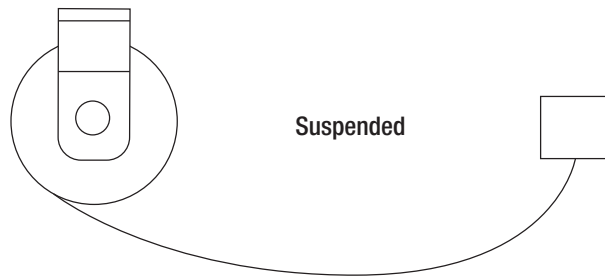

Figure 3-1
3.0.1.1 The cable is suspended without any intermediate support. Stretch reels generally require a line pull equal to two times the weight of the cable, which allows approximately 10% sag at full extension. On long applications where sag cannot be tolerated, it is sometimes desirable to put supports at intervals of 5 to 10 feet. See Figure 3-1